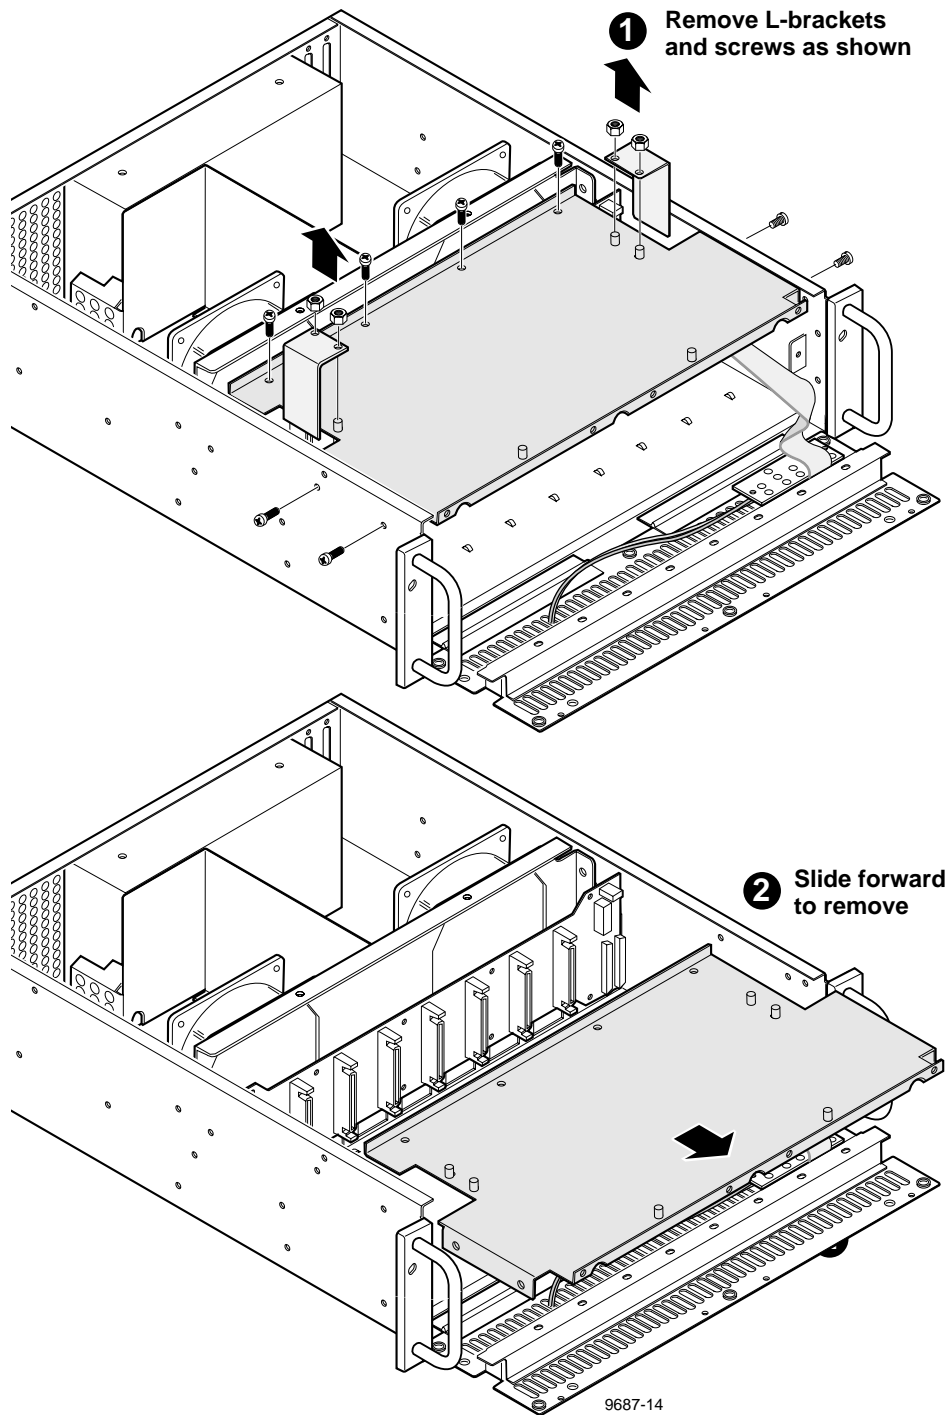

Figure 3-9. PDX218 Disk Tray Cover Removal
Figure 3-9 shows removal of the disk tray cover, which must be removed to gain access for removal of other parts.
6. Remove the screws and L-brackets, one on each side (Figure 3-9).
1. Slide the Disk Tray cover in through the front of the chassis and secure with the screws previously removed (Figure 3-9).
3. Remove the Disk Tray cover (Figure 3-9).
3. Install the Disk Tray cover (Figure 3-9).
4. Install the Disk Tray cover (Figure 3-9).
2. Remove the top cover (Figure 3-9).